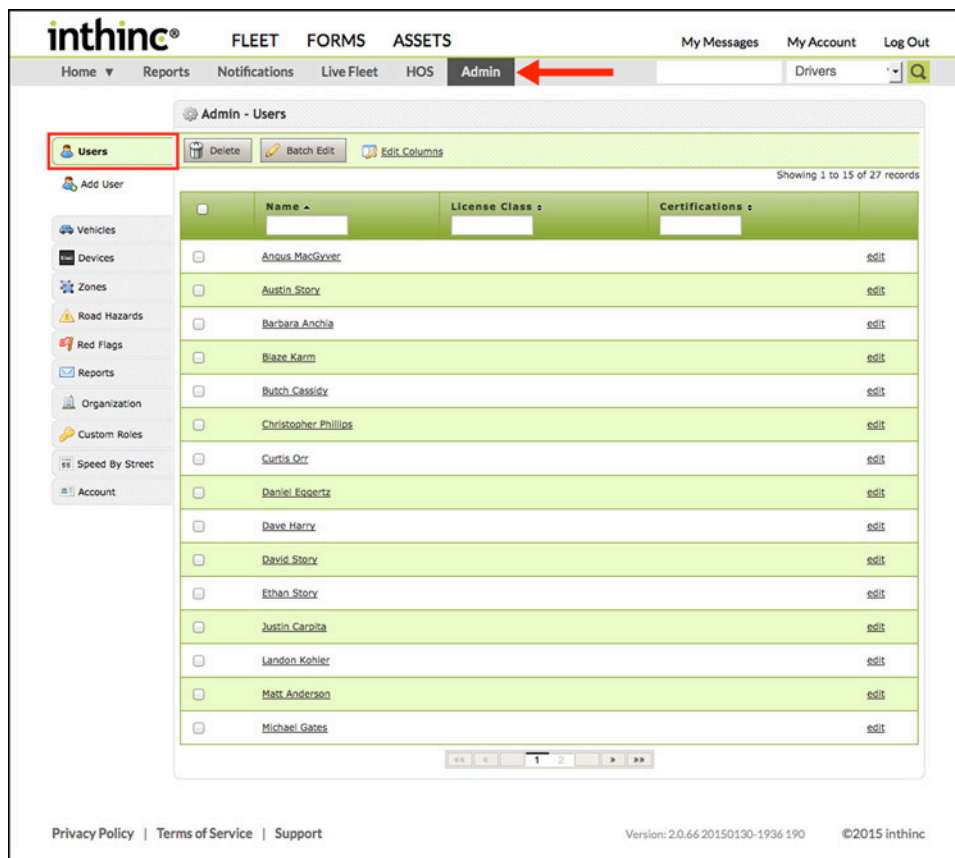

Figure 16 Admin > Users Tab highlighted with Users list displayed
- 1 Navigate to the **Admin Tab** in the main menu. The Users page will display by default. (Figure 16)